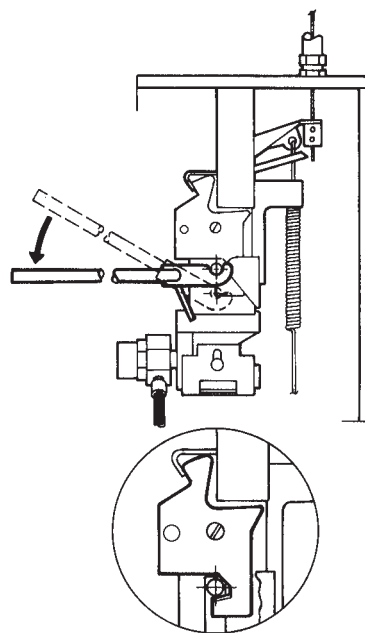

FIGURE 8-5
18. Cock the regulated release mechanism using cocking lever (Part No. 14995 or 435603/Part No. 441042 or 441041). See Figure 8-5.